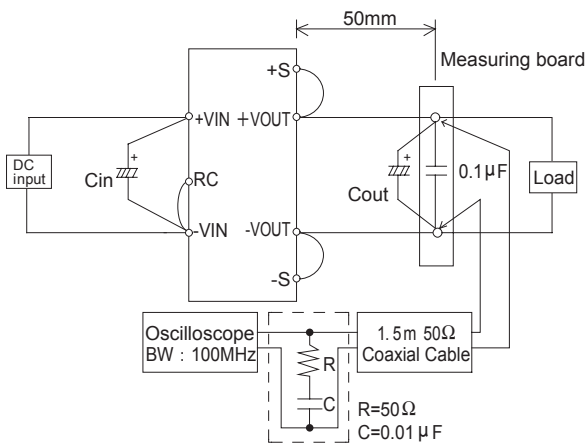
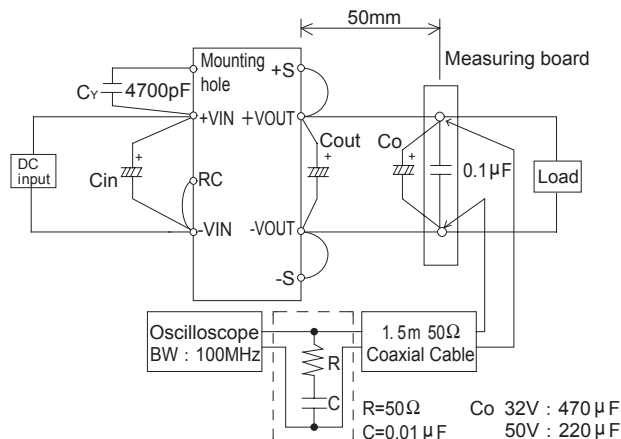

Fig.3.4 Method of Measuring Output Ripple and Ripple Noise
Fig.3.5 Method of Measuring Output Ripple and Ripple Noise
■ The specified ripple and ripple noise are measured by the method introduced in Fig. 3.4 and Fig.3.5.